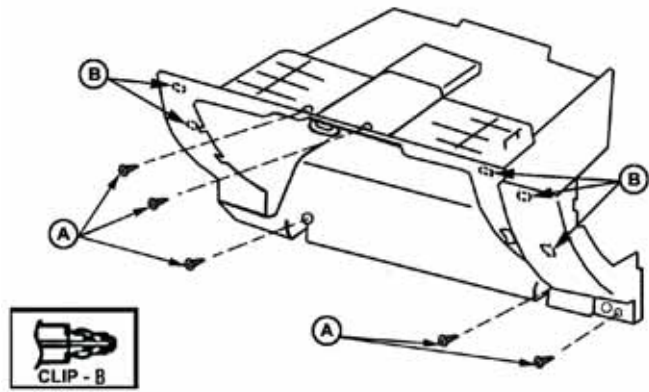

FIGURE 25
- 4.) REMOVE THE MOUNTING SCREWS (A) (5 LOCATIONS). (SEE FIGURE 25)
- 5.) PULL THE GLOVE COMPARTMENT OUTWARD AND DETACH CLIPS (B) (5 LOCATIONS). (SEE FIGURE 25)